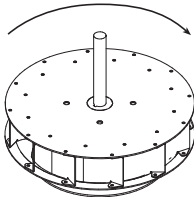

Figure 8
3. Check wheel rotation (viewing from the shaft side) by momentarily energizing the unit. Rotation should be clockwise as shown in Figure 8 and correspond to the rotation decal on the unit. If wheel rotation is incorrect, reverse two of the wiring leads or check motor wiring for single phase. Fan RPM should be checked and verified with a tachometer.